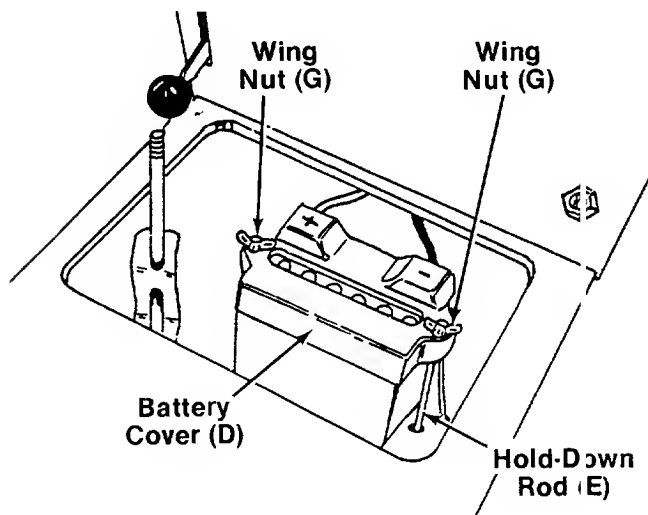

FIGURE 11.
10. Place the battery cover (D) in position over the battery and one hold-down rod. Secure with wing nut (G). Attach other hold-down rod to the other side of battery cover in the same manner. See figure 11.